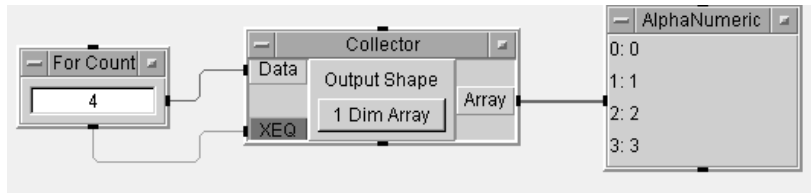

Figure 6.1. The Collector creating a displayed array
12. Run your program. See Figure 6.1.